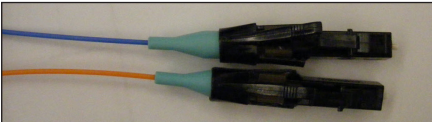

Figure 18: Fiber Cable
**Note:** The maximum cable distance from the sending box to the first receiver card is 328.08' [100 m]. For installations exceeding this distance, use a fiber converter to convert the Cat 5e/Cat 6 cable to a fiber cable, which offers an additional 984.25' [300 m] with multi-mode fiber or up to 9.32 mi [15 km] with single-mode fiber. Two fiber converters can be used to convert the cable to a fiber cable and then back to a Cat 5e/Cat 6 cable. The cable can connect to the first panel. Use additional cables to connect to the next panel. Refer to **Figure 18** and **Figure 19**.